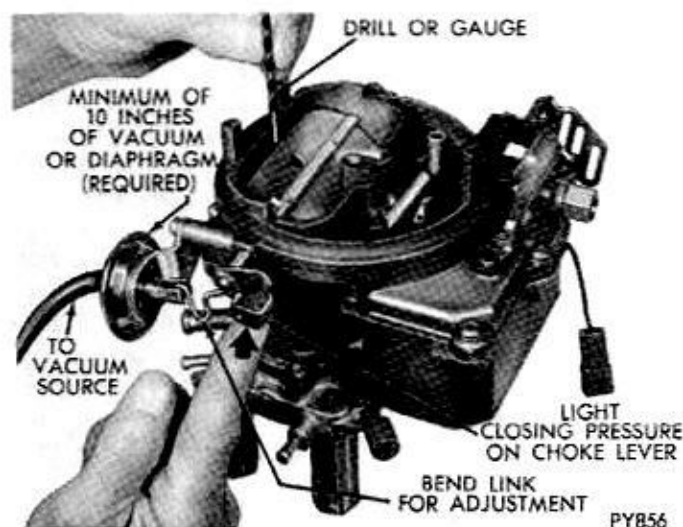

Fig. 22—Vacuum Kick Adjustment
(2) When using an auxiliary vacuum source, disconnect vacuum hose from carburetor and connect it to hose from vacuum supply, with a small length of tube to act as a fitting. Removal of hose from diaphragm may require forces which can damage the system. Apply a vacuum of 10 or more inches of mercury.
(3) Insert specified drill (refer to Specifications) between top of choke valve and wall of air horn (Fig. 22). Apply sufficient closing pressure on lever to which choke rod attaches to provide a minimum choke valve opening, without distortion of diaphragm link. Note that the cylindrical stem of diaphragm will extend as internal spring is compressed. This spring